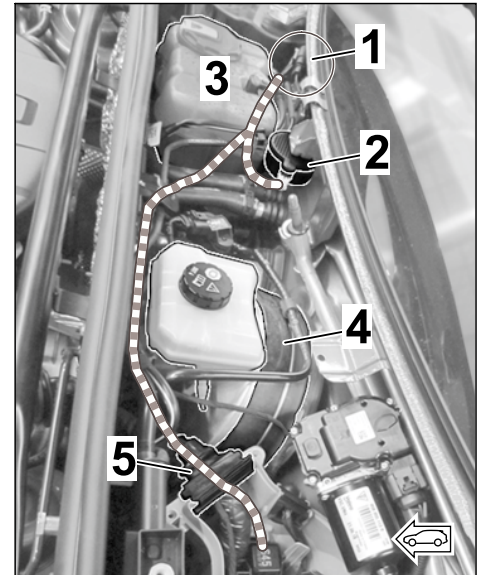

Figure 21
- **LHD vehicles:** (⇒ *Figure 21*)